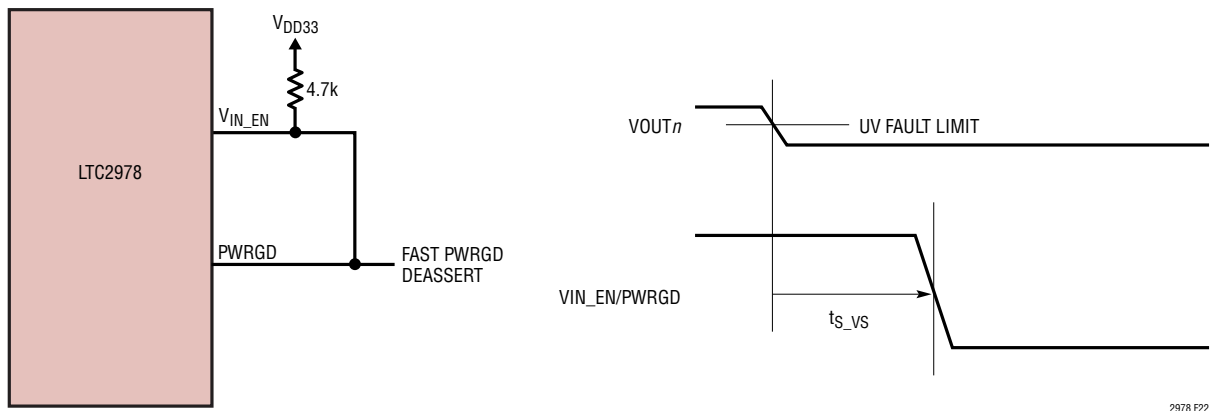

Figure 22. PWRGD Deassert
- A fast deassertion of PWRGD may be implemented by wire ANDing the V_{IN_EN} pin with the PWRGD pin. If, for example, a UV or OV fault threshold is crossed, V_{IN_EN} will pull low if the associated bit in the MFR_VINEN_UV_FAULT_RESPONSE or MFR_VINEN_OV_FAULT_RESPONSE register is set. See Figure 22.